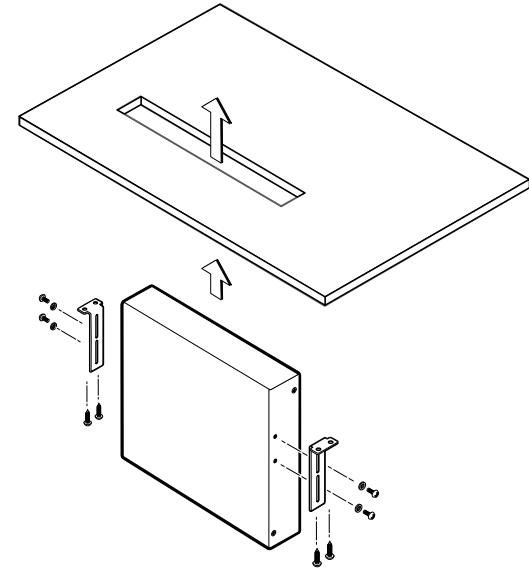

Figure 2-3 — Through-desk mounting the unit
2. Secure the brackets to the unit with the provided machine screws (figure 2-3). Leave the screws slightly loose.